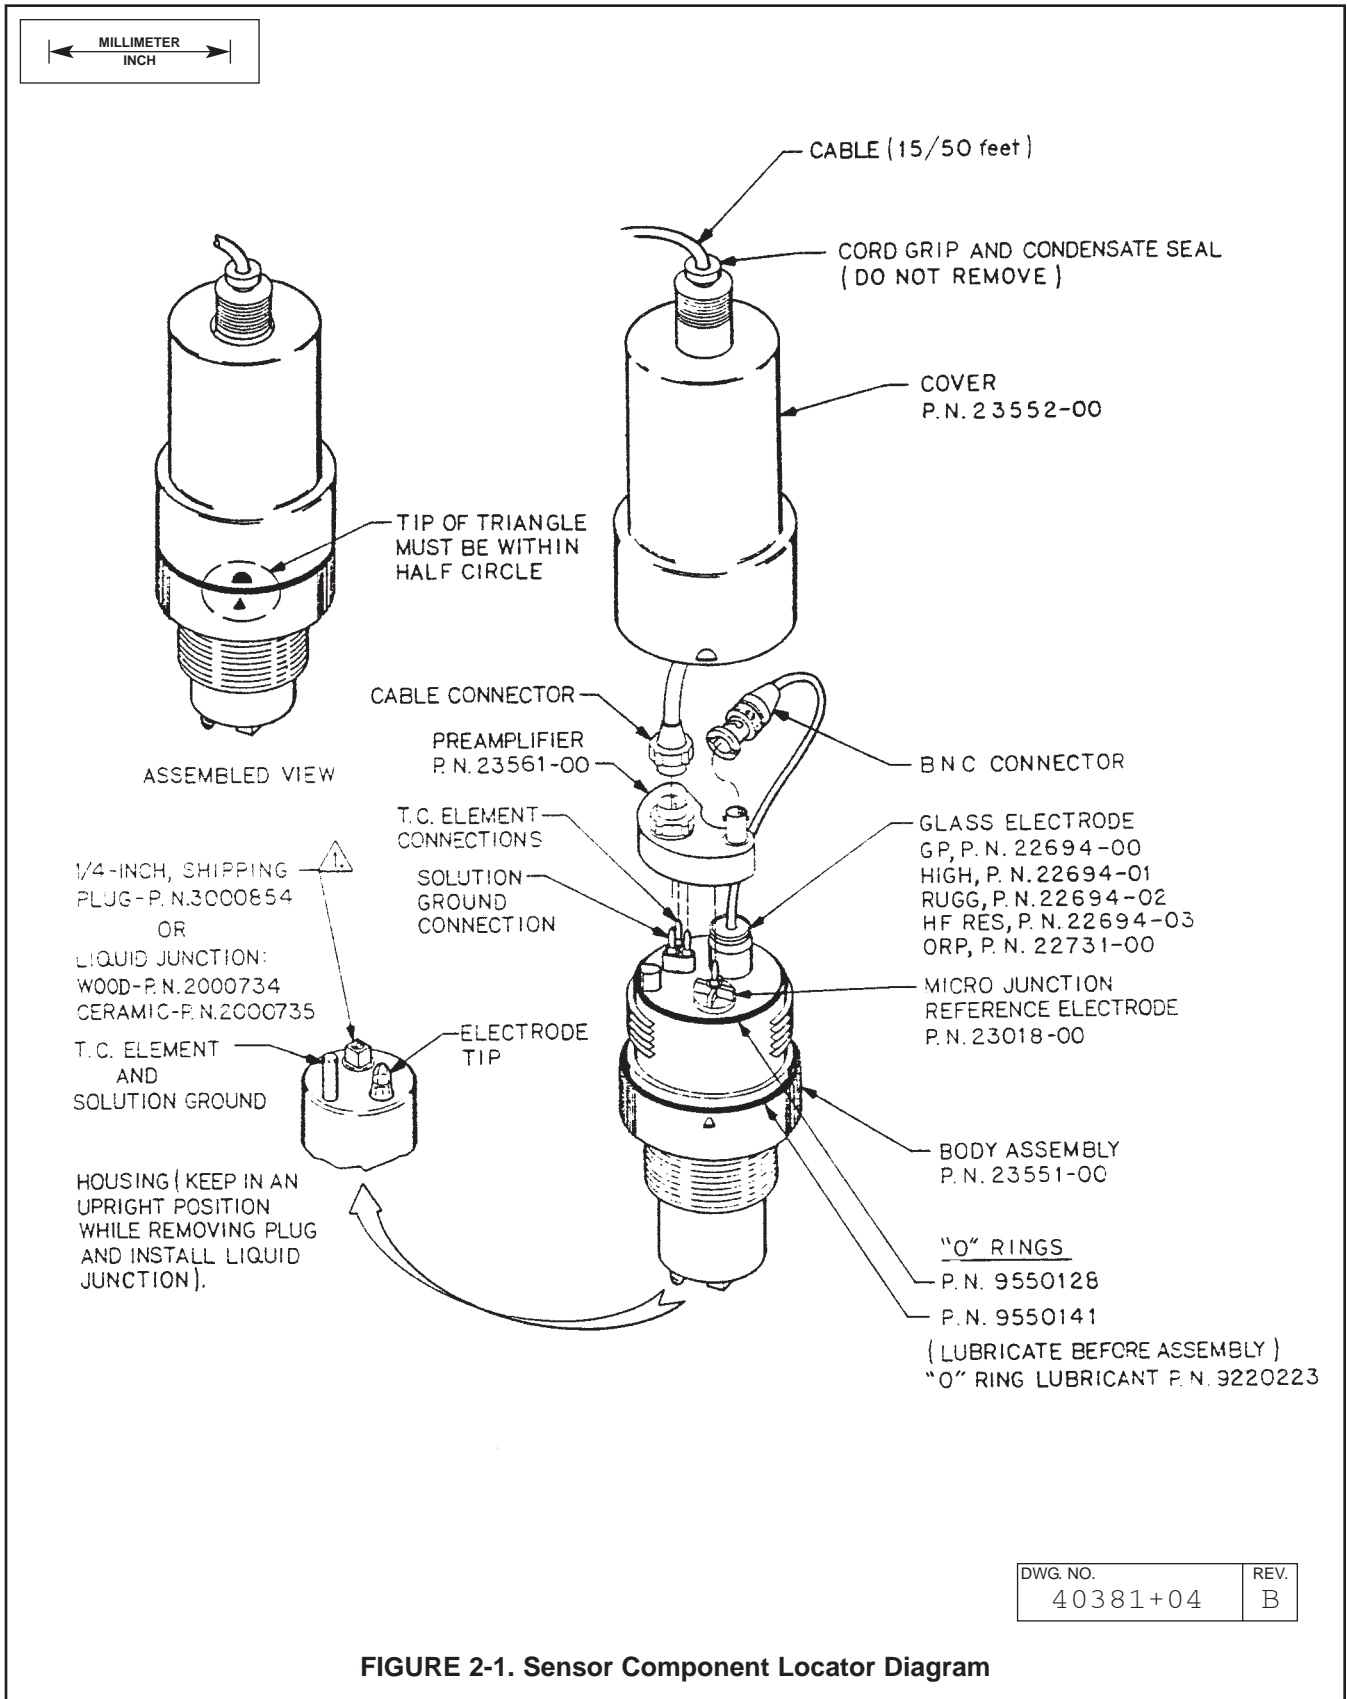

FIGURE 2-1. Sensor Component Locator Diagram
2.1 INSTALLATION. Prepare the sensor for installation as follows (see Figure 2-1):
12. While holding the sensor in an upright position (see Figure 2-1), remove the 1/4-inch shipping plug from the electrode tip end of the sensor.